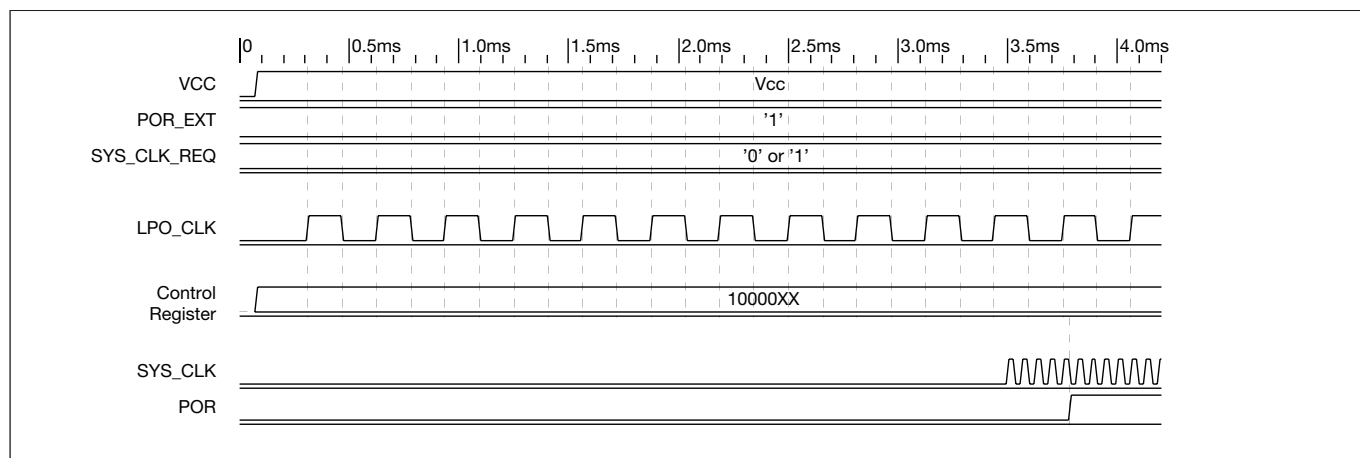

Figure 6. Powering up the module.
Power-on-reset digital output is activated after the power has been applied to the Bluetooth radio or on a positive edge of the POR_EXT digital input. POR has a transition from 'low' to 'high' after four clock cycles have been delivered to the baseband chip, see figure 6.
3.2 kHz low power oscillator clock digital output that is adjustable by setting the internal LPOHI and LPOLO registers (see figure 6). The clock output is available as soon as the power supply is applied and POR_EXT is 'high'. The LPO is necessary for wake-up timing in the baseband circuitry, if the Ericsson baseband is used.